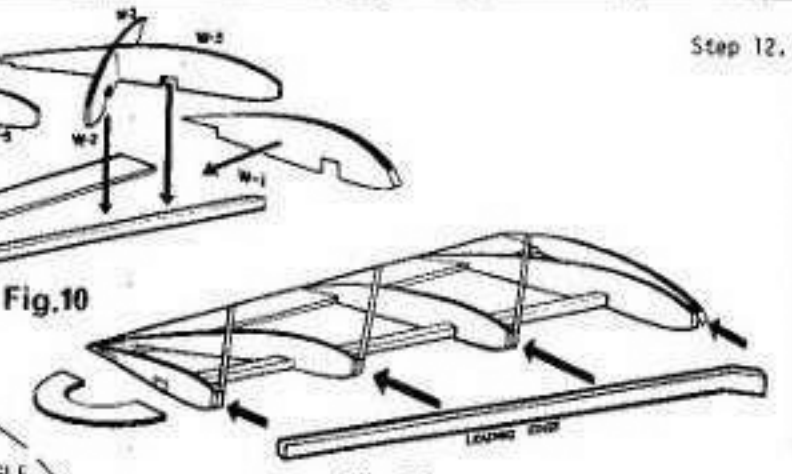

FIG. 10
STEP 11. Now criss cross wing formers W 2 and W 3, place in position on FIG. D and glue to main spar and trailing edge. Repeat with W 4 and W 5, and W 6 and W 7 (Fig. 10). Glue W 1 in place. Note that W 1 is glued at an angle (FIG. E). Use wing angle (dihedral) template as a guide.